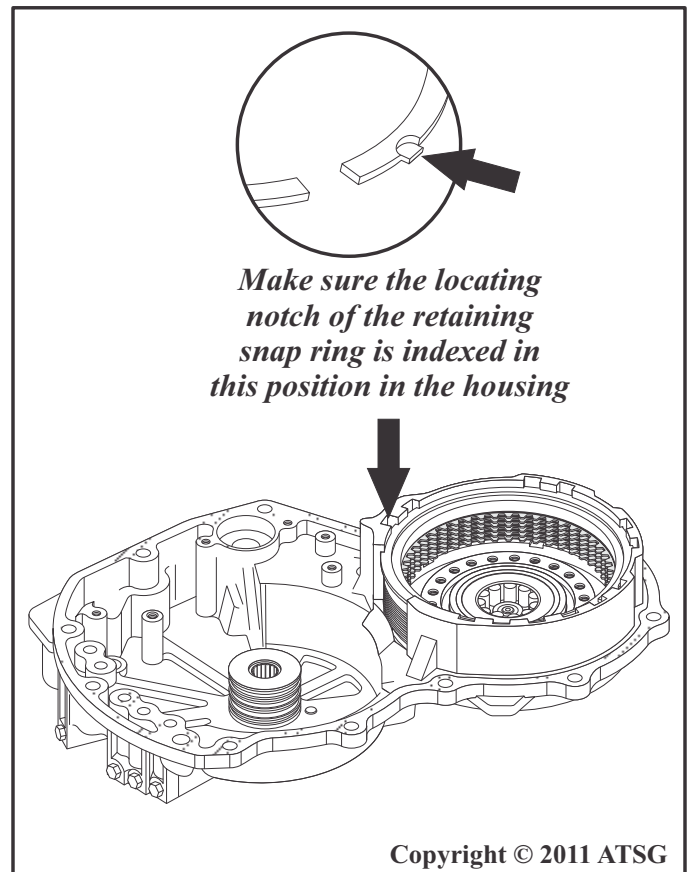

Figure 133
18. Make sure the locating notch of the retaining snap ring is indexed in the proper location of the housing as shown in Figure 133.